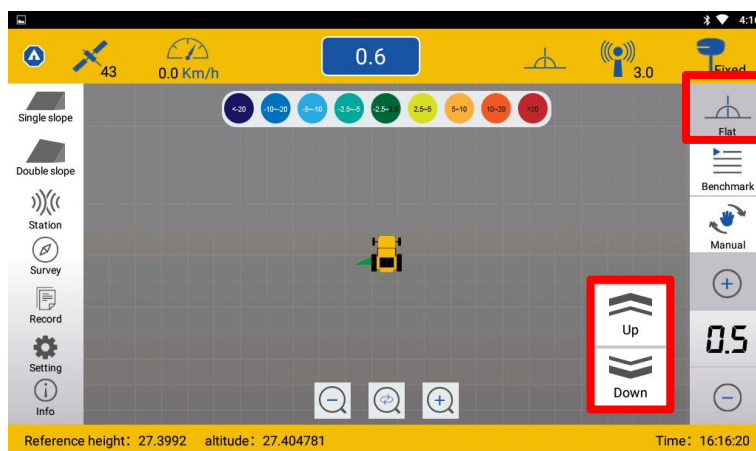

Figure 6
Step2. Click the Flat button to enter Flat mode. (Figure 6)